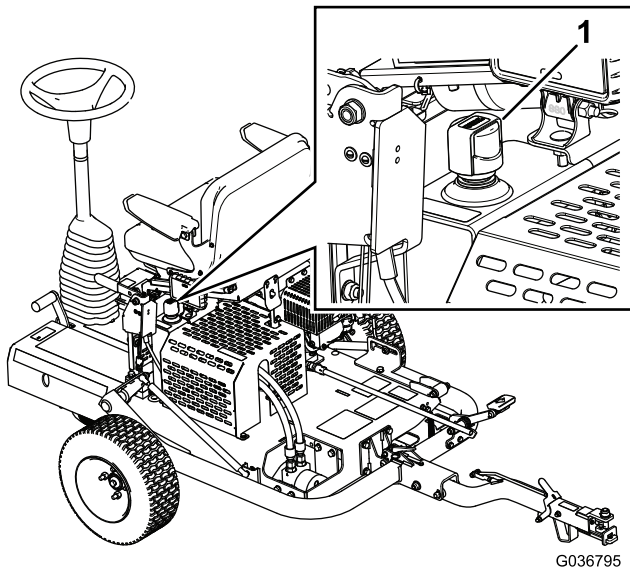

**Figure 20**
2. Pull back on the seat latch, and tip the seat forward (Figure 20).